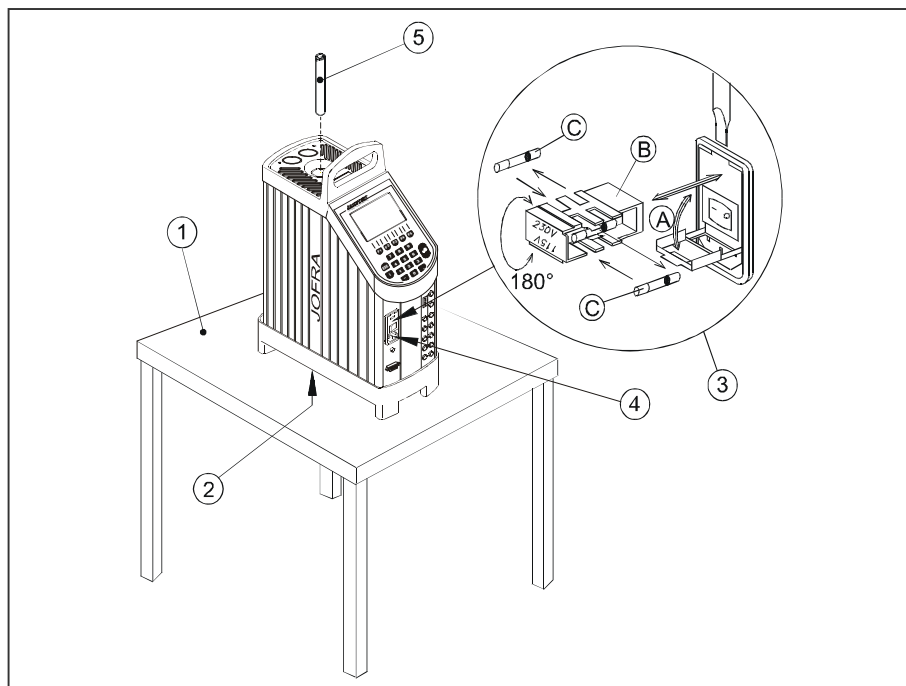

Fig. 1a
- ③ Check the voltage on the power control switch (on/off switch (230V/115V)). If the voltage of the power control switch differs from the line voltage, you must adjust the setting of the power control switch as follows (see fig. 1a):
- ④ Check that the earth connection for the instrument is present and attach the cable.
- ⑤ Select an insertion tube with the correct bore diameter. See section 3.2.2 for information on how to select insertion tubes.